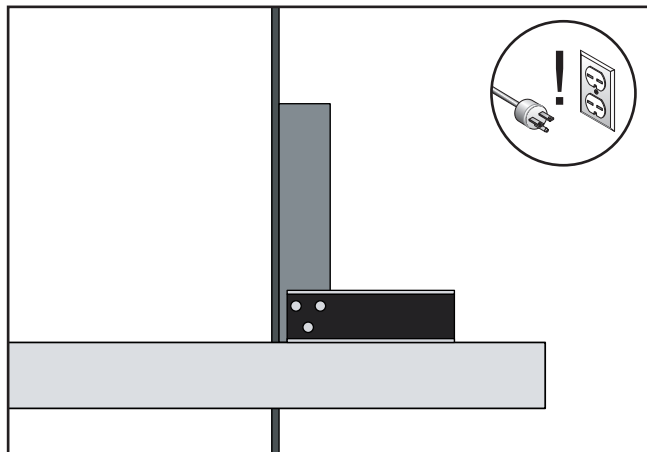

Figure 29. Squaring table to blade.
5. Raise the upper blade guide assembly and place a 6" machinist's square or try-square on the table next to the side of the blade, as illustrated in **Figure 29**. Adjust the positive stop bolt to raise or lower the table until the table is 90° to the blade.